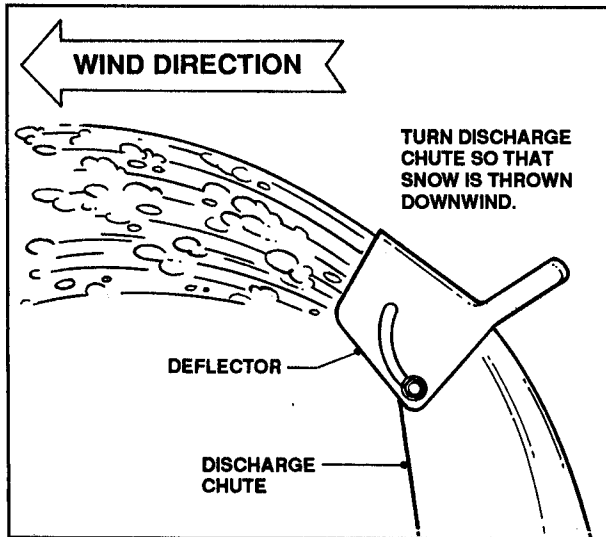

FIGURE 3.1
A. Throw Snow Downwind - Allow the wind to carry the snow further from the area. See Figure 3.1.